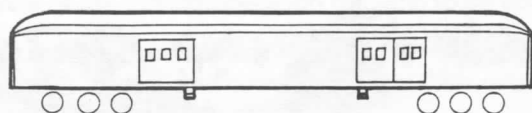

Figure 1. Baggage, Express or Mail Storage
Early baggage cars were not much more than box cars with sliding doors and no windows. As trains got faster and fancier, special cars were built with high speed wheels, better brakes and passenger equipment. Some baggage cars were painted and polished to match the sleeping cars. By the time of the steel limited trains, baggage cars bore little resemblance to box cars. (See Fig. 1).
1) Passenger Car Style express cars were nearly identical to the standard baggage car. (See Fig. 1). In fact on most railroads the cars were exactly the same and interchangeable, and some cars carried both baggage and express. So why the different terms?